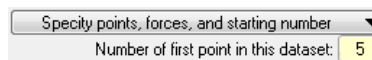

Figure 3. Setting the number of the first reference point.
1. The first option is to specify points starting with #1. The dataset is written to automatically add points if needed to obtain the specified number ②. If you are using 18 or fewer points in a simulation, then you should always use this option. If you are using multiple datasets from this library in a simulation, then you may use this option for one of the datasets; the others should use the second option to specify points with a different range of numbers.
2. The second option is provided in case the simulation will include links to multiple datasets defining reference points. If this option is selected, then a data field is available (Figure 3) to specify the number of the first point in this dataset. For example, if another dataset defined points one through four, then specify that the first number for this dataset is five.